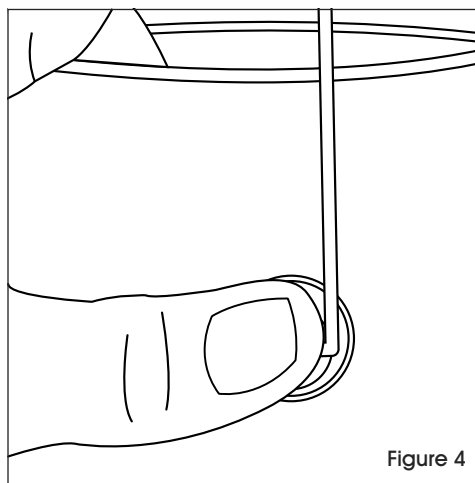

Figure 4
4. Press thumb on the prong while gently twisting handle to insert prong into hole. Use pliers to press on prong if needed. (See Figure 4)
besoin. (Voir Figure 4)